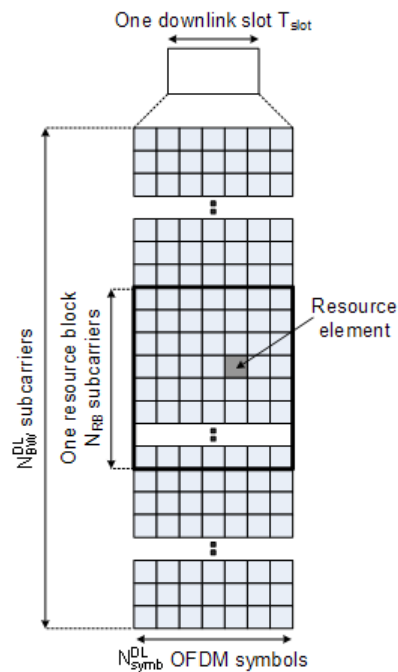

Fig. 2-5: Downlink Resource Grid
figure 2-5 shows the structure of the downlink resource grid for the duration of one downlink slot. The available downlink bandwidth consists of  $N_{BW}^{DL}$  subcarriers with a spacing of  $\Delta f = 15$  kHz. In the case of multi-cell MBMS transmission, a subcarrier spacing of  $\Delta f = 7.5$  kHz is also possible.  $N_{BW}^{DL}$  can vary in order to allow for scalable bandwidth operation up to 20 MHz. Initially, the bandwidths for LTE were explicitly defined within layer 1 specifications. Later on a bandwidth agnostic layer 1 was introduced, with  $N_{BW}^{DL}$  for the different bandwidths to be specified by 3GPP RAN4 to meet performance requirements, e.g. for out-of-band emission requirements and regulatory emission limits.
Data is allocated to the UEs in terms of resource blocks. A physical resource block consists of 12 (24) consecutive subcarriers in the frequency domain for the  $\Delta f=15$  kHz ( $\Delta f=7.5$  kHz) case. In the time domain, a physical resource block consists of DL  $N_{sym}$  consecutive OFDM symbols, see figure 2-5.  $N_{sym}^{DL}$  is equal to the number of OFDM symbols in a slot. The resource block size is the same for all bandwidths, therefore the number of available physical resource blocks depends on the bandwidth. Depending on the required data rate, each UE can be assigned one or more resource blocks in each transmission time interval of 1 ms. The scheduling decision is done in the base station (eNodeB). The user data is carried on the physical downlink shared channel (PDSCH). Downlink control signaling on the physical downlink control channel (PDCCH) is used to convey the scheduling decisions to individual UEs. The PDCCH is located in the first OFDM symbols of a slot.